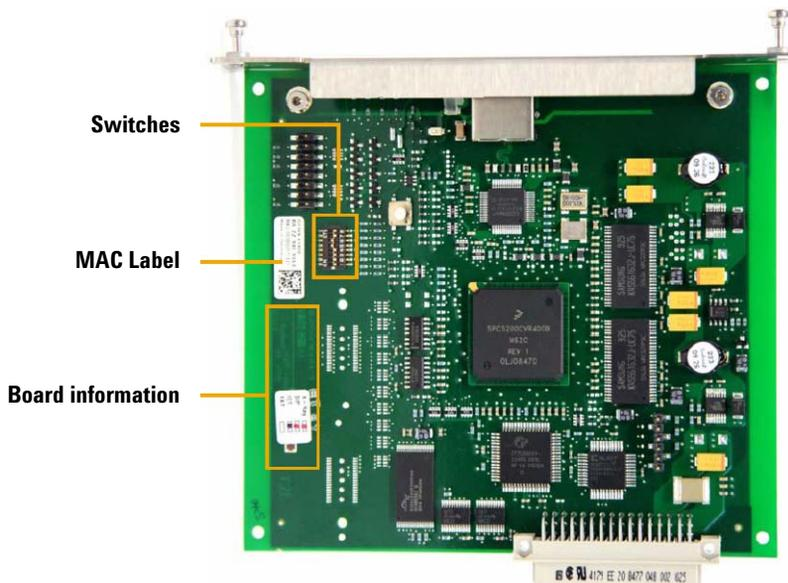

Figure 3 LAN card details
- 1 Make a note of the MAC address of the LAN card. See for Figure 3 for location.